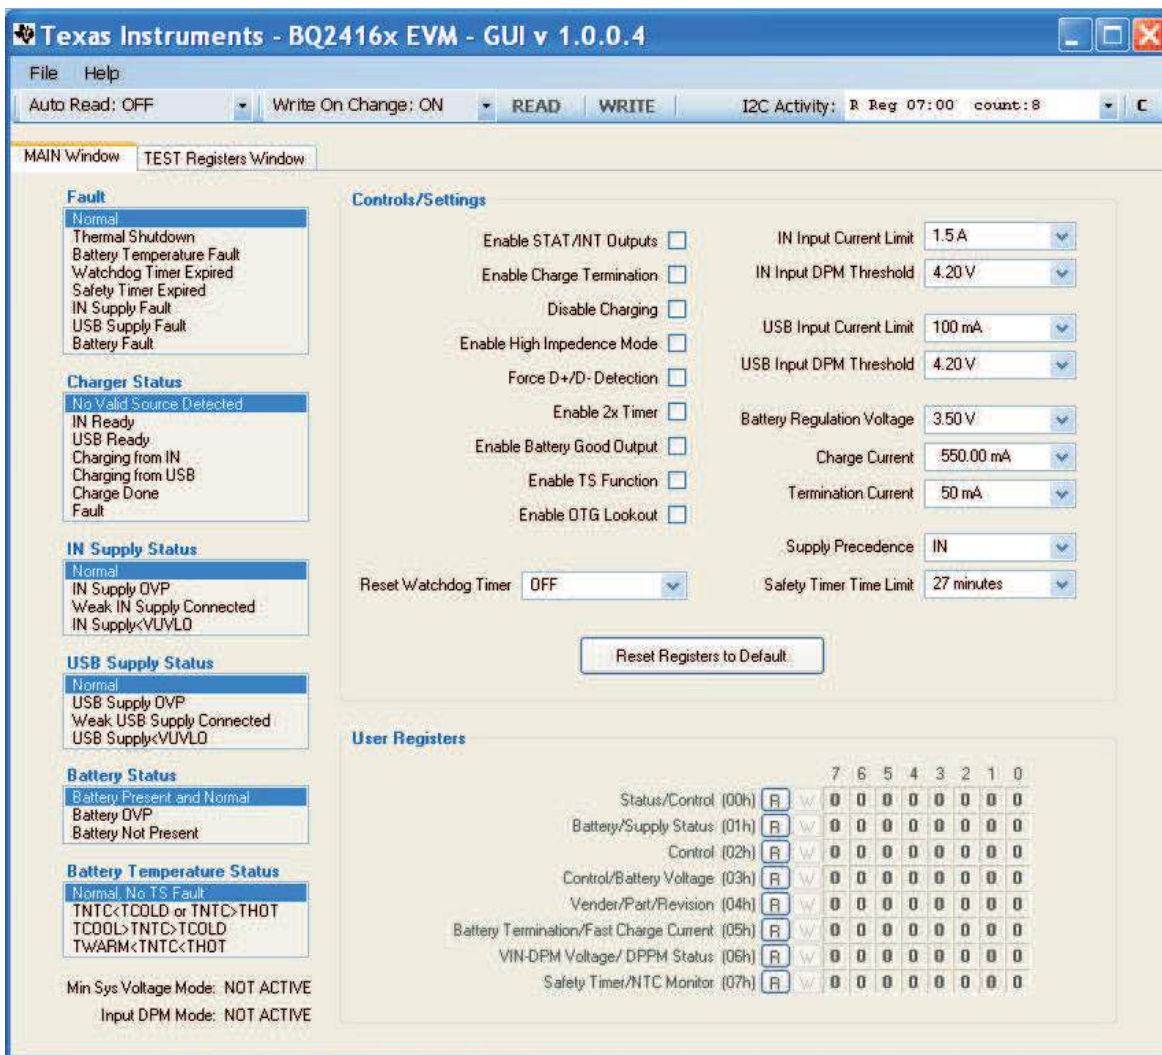

Figure 5. Main Window of bq2416xSW Evaluation Software
- Open the bq2416x evaluation software. The main window of the software is shown in Figure 5.